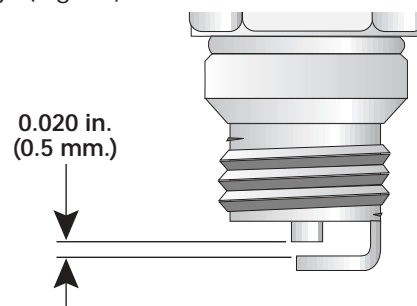

Fig. 28
3. Set the air gap at 0.020 in. (0.5 mm.) using a feeler gauge (Fig. 28).